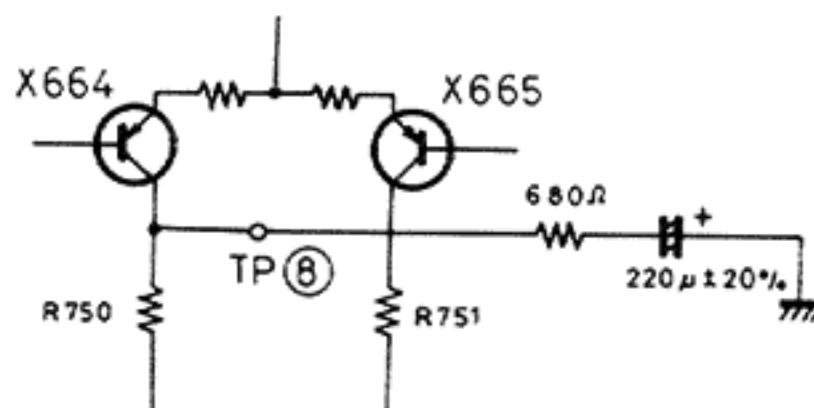

Fig. 42
Insert a 680-ohm resistor and a $220\mu F \pm 20\%$ capacitor into TP⑧ after starting the motor. (see Figure 42)